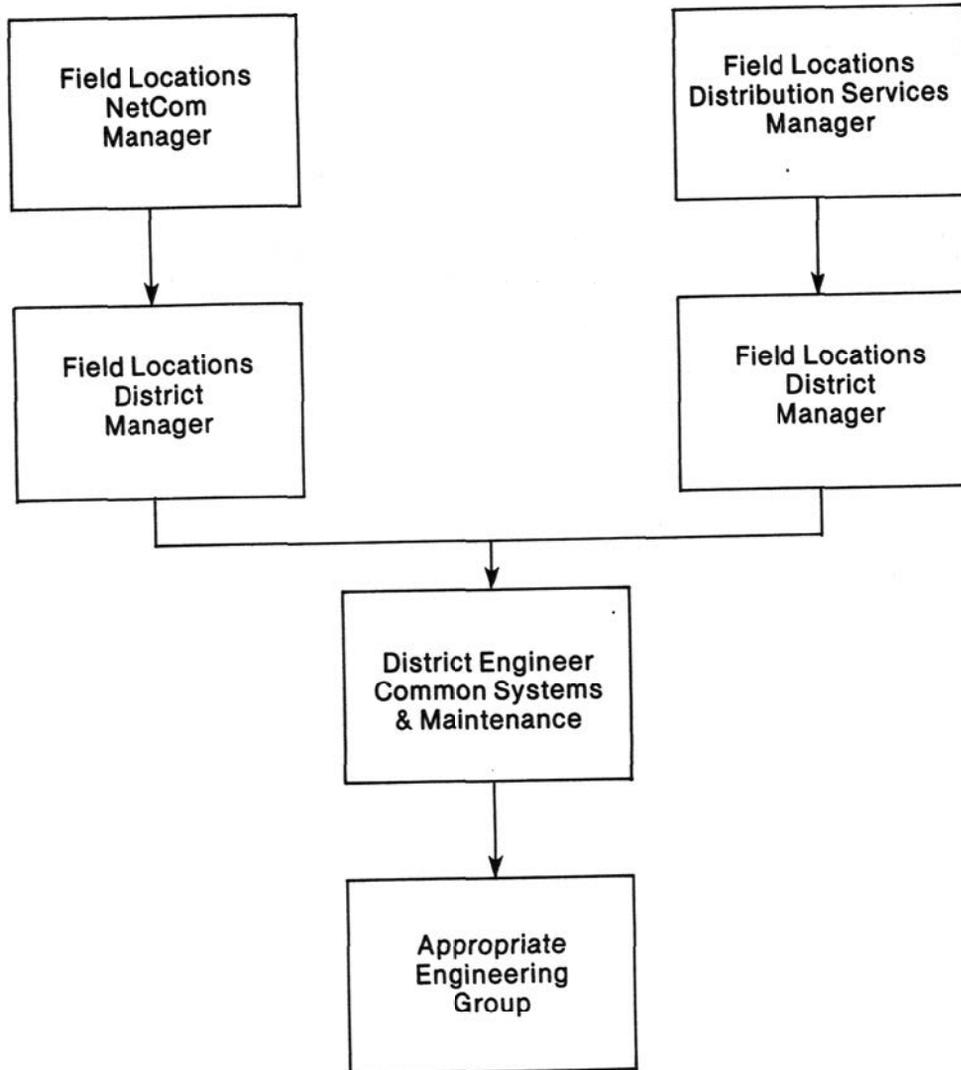

Fig. 2 — Routing, P-2185
(c) Referred To - P2185s (Fig. 2) are routed from the Field Locations District Manager to the District Engineer who will route to the appropriate Engineering Group. The Equipment Engineering Group will:
5.04 Examples of possible routing of P-2185's originating in Distribution Services and NetCom Services are shown in Fig. 2.